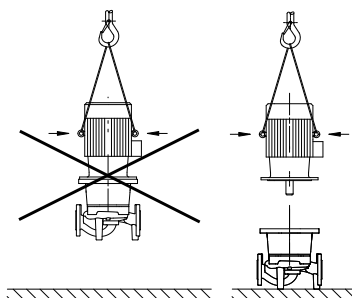

Fig. 8: Attaching the motor
- The transport eyes on the motor are only for transporting the motor, and are not approved for transporting the complete pump (Fig. 8).